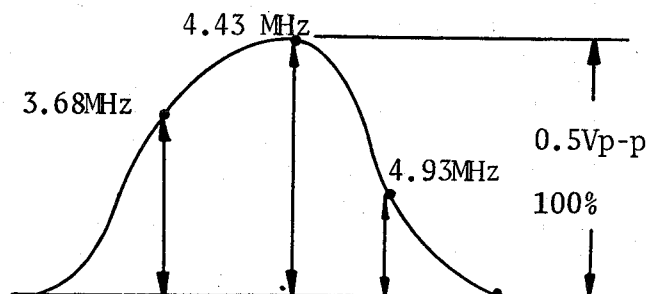

FIG. 10
3. Adjust T 301 to obtain the waveform as in FIG. 10.